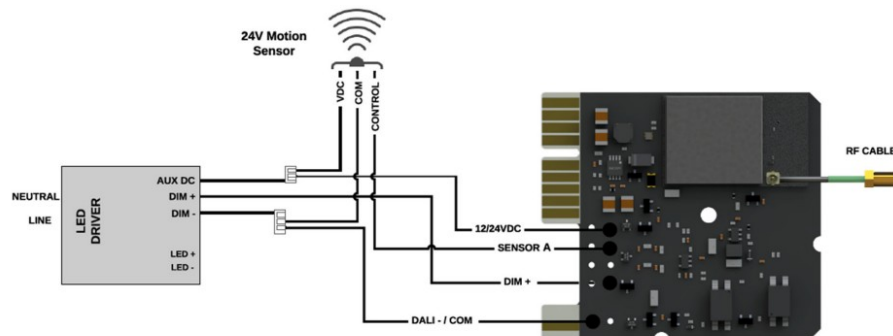

Figure 2 – Dim to OFF Wiring Diagram
18. Sensors must be configured in software before they are functional in a SimplySnap system. (See Figures 2 and 3)
20. Connect the Aux ground from the LED driver to the DIM10-087-06. (Figure 2 and 3)
22. Connect the DIM+ wire on the LED driver to the DIM+ output on the DIM10-087-06. (See Figure 2)